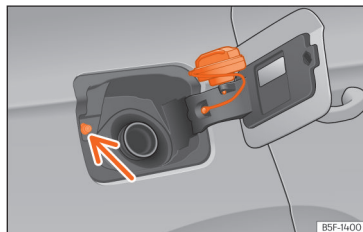

Fig. 234 Fuel tank flap with tank cap attached.
Avoid touching the fuel tank flap lock button » **Fig. 234** (arrow). The system will interpret that you have finished and cannot continue refuelling. Press the  button on the driver's door again to continue.
- Place it in the space on the hinge of the open flap » **Fig. 234**.